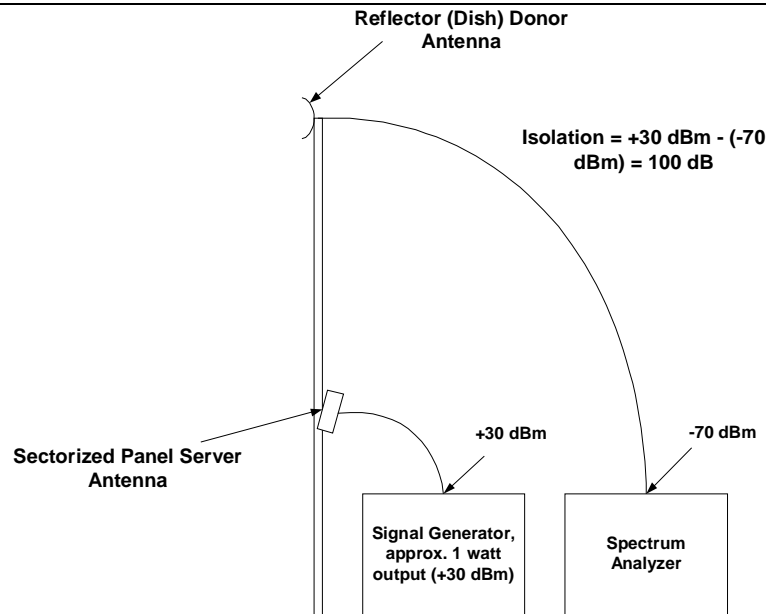

Figure 5: Antenna Isolation Measurement Set-up
- Figure 5: Antenna Isolation Measurement Set-up
Then, isolation measurements should be made to ensure proper operation of the repeater. Isolation measurement can be accomplished easily by following the procedure outlined below, as illustrated in Figure 5.